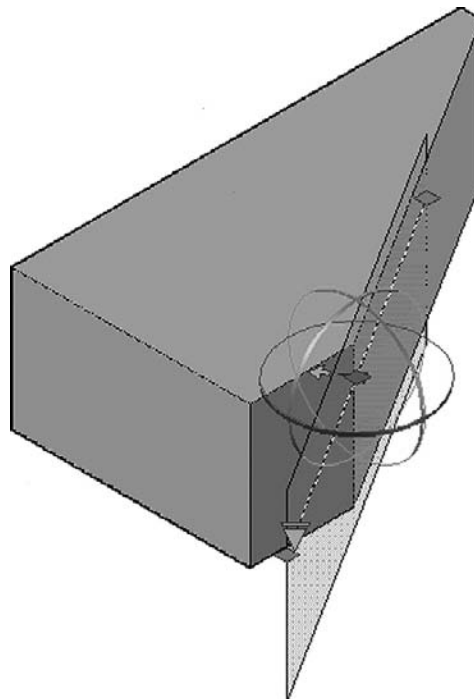

FIGURE 27.32
- **Section Plane.** This tool, found under the Ribbon's Mesh→Section, allows you to easily section a mesh shape to view the interior or just a piece of it. This tool can be used on regular solids as well. Simply press Section Plane and select a method of locating the plane. The result of sectioning a simple box is shown in Figure 27.32. The section itself can be rotated via the gizmo.